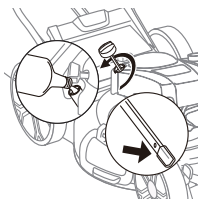

Fig.4
2. Remove oil dipstick from oil fill spout.(Fig.4)